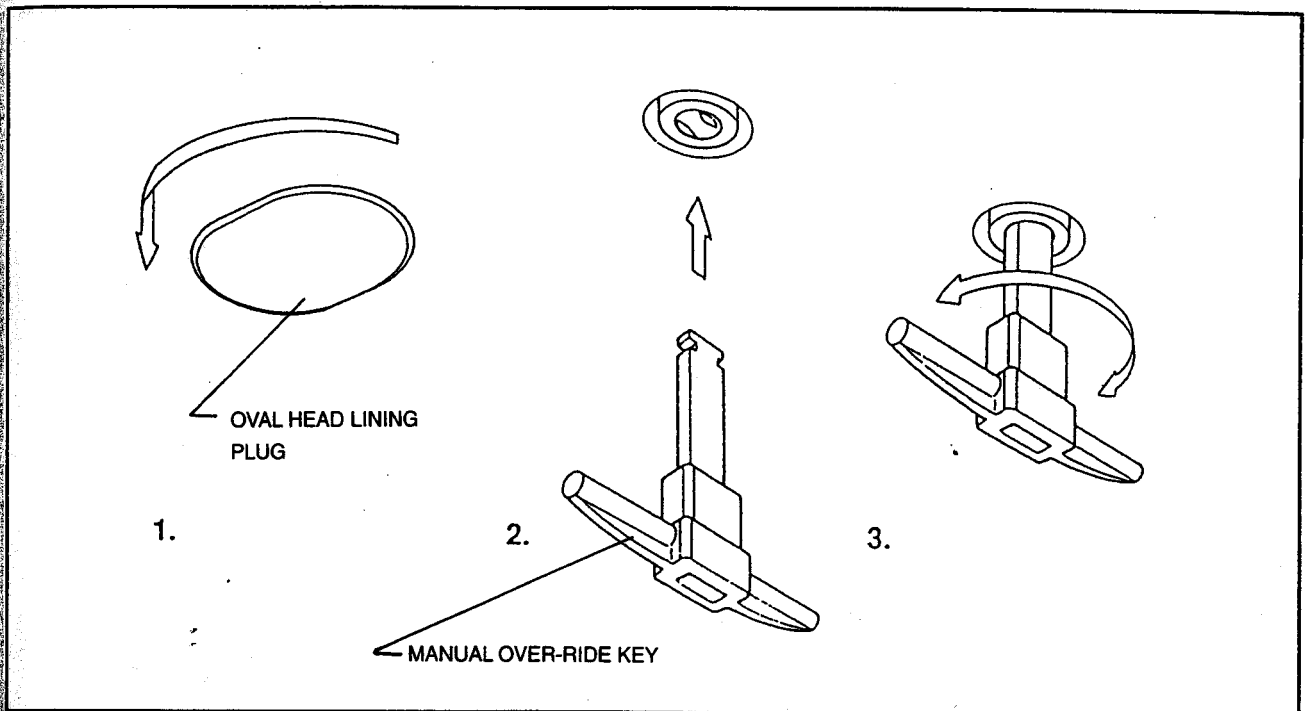

Fig. 3 - Manual Actuation of Sunroof.
To manually activate the sunroof proceed as follows (Fig. 3).
- Carefully remove the oval plug near the rear edge of the sunroof from the head lining by gripping the edge of the plug with your fingers and rotating clockwise. Fig. 3, Item 1.
- Insert the manual over-ride key into the socket. Fig. 3, Item 2.
- Rotate the key to move the sunroof to the closed position. Fig. 3, Item 3.